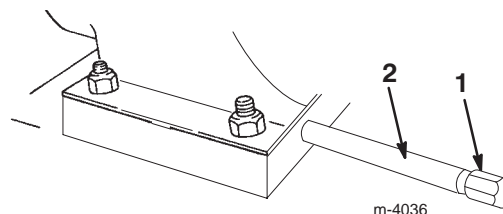

Figure 33
3. Clean the area around the oil drain plug (Fig. 33).